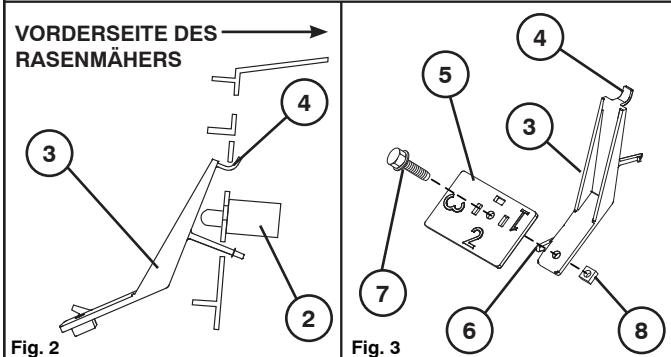

Fig. 2
- Take bagger full lever (3) and insert tab(4) into upper slot and rotate until lever (3) snaps into position (See Figs. 2 and 3)
- For the heaviest/wet grasses, do not attach paddle (5).
- For lighter grasses use the paddle (5) on setting “1”, “2”, or “3” (“3” being for the lightest or dry grass).
- Choose your setting and rotate the bagger paddle (5) so that the desired number (setting) faces you.
- Place paddle (5) on lever (3) so that tab (6) at the bottom of the bagger full lever (3) goes through appropriate rectangular slot and make sure holes in bagger full lever (3) and paddle (5) line up.